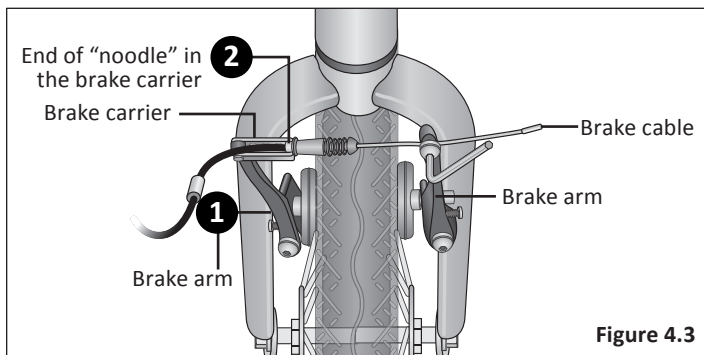

Figure 4.3
- ❶ Squeeze the two brake arms together until the brake pads touch the wheel rim. **Figure 4.3**
- ❷ With your other hand, pull on the brake cable and insert the end of the “noodle” into the brake carrier.